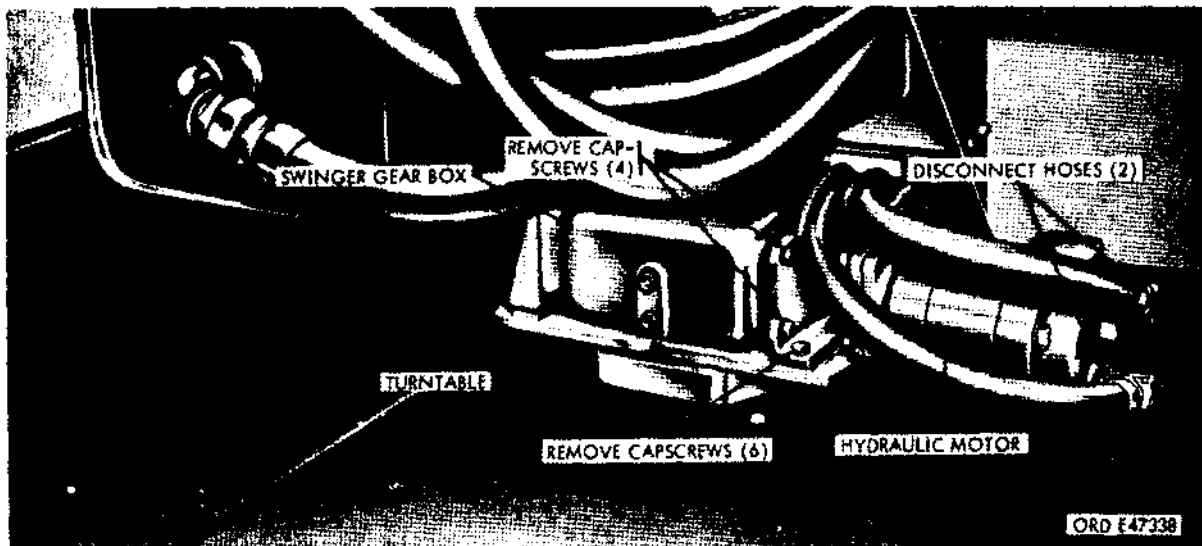

Figure 549. Removing and installing swinger hydraulic motor and gearbox
- (1) Disconnect the two hydraulic hoses to the motor as shown in figure 549. Some oil may be lost. Have a container available in which to place disconnected hoses.
- (2) Remove the four cap screws that attach motor to swing gearbox as shown in figure 549 and remove motor assembly.
- (3) Remove the six cap screws securing gearbox to turn table and remove gearbox.